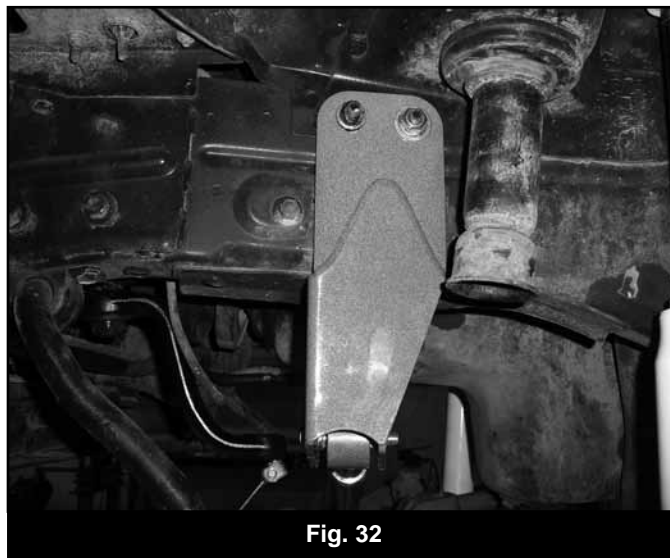

Fig. 32
83. Install the provided new track bar bracket (01398) to the driver's side frame with the original hardware. Torque the factory hardware to 60 ft-lbs starting with the lower bolts. (Fig 32)